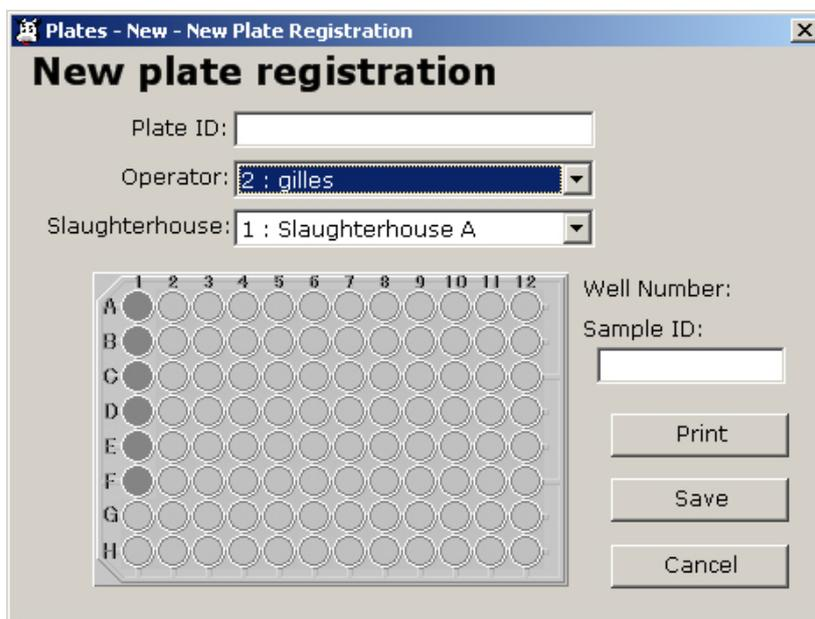

Fig. 5.1-2 : New Plate registration
- (2) The “New Plate Registration” screen is displayed (Fig. 5.1-2). Make sure that the cursor is in the “Plate ID” box and use the hand barcode scanner to scan the barcode of the new deepwell plate (or input by keyboard and press Enter).